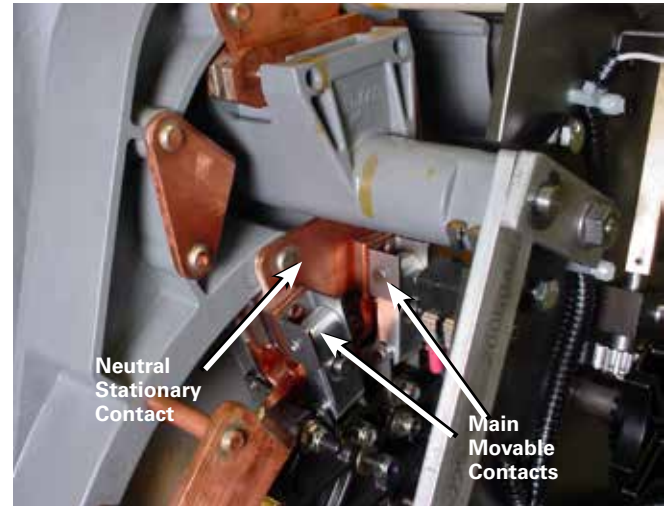

Figure 7. Neutral stationary contact.
- A. Main movable contacts are located on the neutral stationary contact, which is located at the 11 o'clock position and under the reversing switch movable contact assembly. See Figure 7.